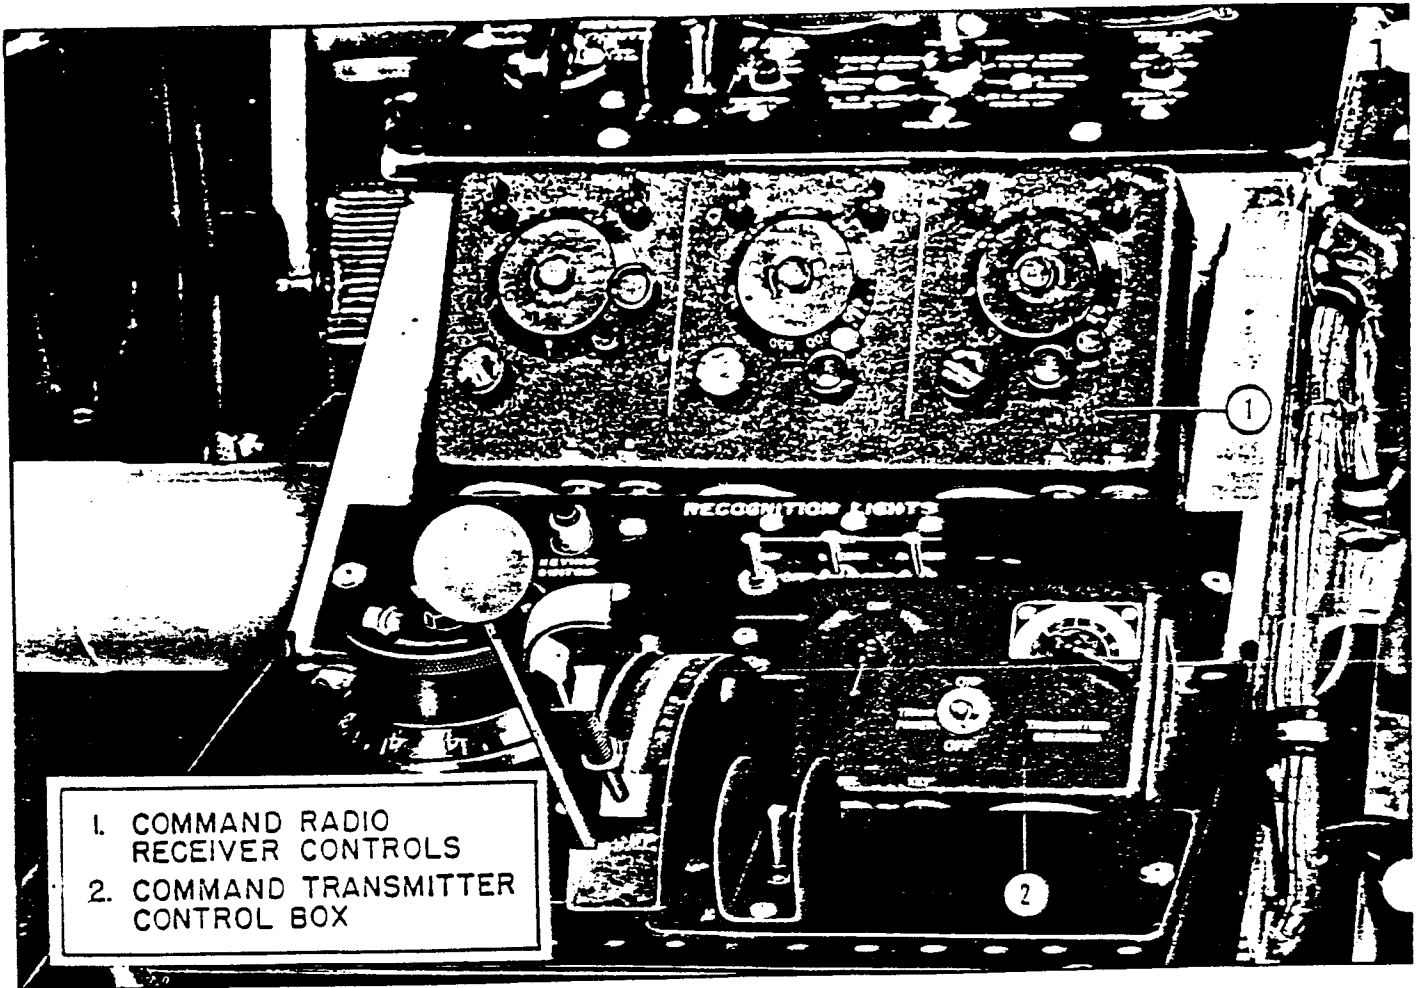
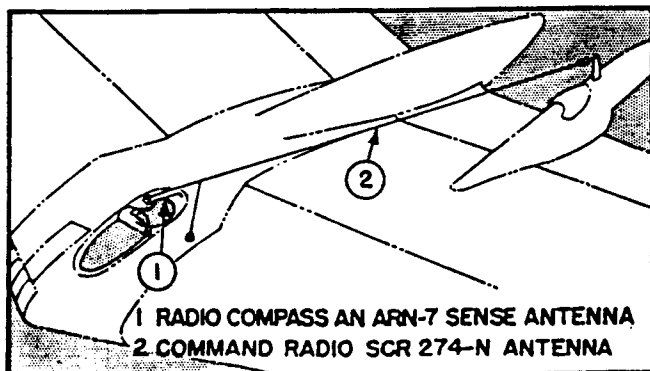
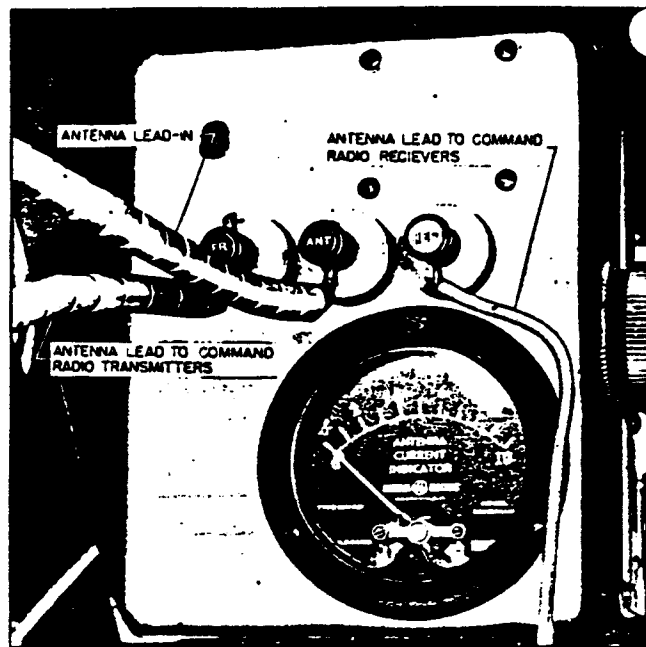

Figure 12. SCR-274N Radio Controls
Figure 14. Antennas
Figure 15. Antenna Relay Switch
on the (3.10-6.0 Mc) band and the BC-455 for receiving on the (6.0-9.1 Mc) band. Each receiver is an independent complete self-contained radio signal receiving unit with its own dynamotor. All three receivers are basically alike electrically and mechanically. Each has the same compliment of tubes performing identical functions. All three are installed on the (FT 220) rack at the radio operator's station. Primary power is obtained from the airplane's 28 Volt D.C. supply. Each receiver is controlled by either the pilot or the copilot by means of the remote control box (BC-450 A), see figure 12, mounted on the pedestal convenient to both. This control box consists of three separate and complete remote control units one for each radio receiver. The control units like the receivers are identical electrically and mechanically. The only difference being in the calibration markings on the dials. All three receivers use the same antenna, see figure 14, which is also used for transmitting. An antenna relay switch (BC-442 A), see figure 15,
a. DESCRIPTION.- The transmitting equipment of the Command Radio (SCR-274-N) consists of two transmitters: (BC-458 A) for transmission on the 5.3-7 Mc band and one (BC-459-A) for transmission on the 7.0-9.1 Mc band, one modulator (BC-456 A) and a transmitter remote control box (BC-451 A). (See figure 12.) Both transmitters are basically alike electrically and mechanically and are installed on a rack (FT-266 A) at the radio operator's station. Primary power is supplied from the airplane's 28 Volt d.c. current supply. Each transmitter is individually controlled by the pilot or the copilot by means of the transmitter remote control box mounted on the pedestal convenient to both, figure 12. Both transmitters use the same antenna which is also used for receiving. The antenna is normally connected to the receivers but when the power switch of the transmitter control box is turned to "ON" and transmitting is begun, the antenna is automatically disconnected from the receivers and connected to the transmitters by the antenna relay, (BC-442 A), see figure 15. Both transmitters use the same modulator. The control box incorporates the "transmitter power" switch, "transmitter selection" switch, "TONE-CW-VOICE" switch, a microphone jack, a transmitter key, and a jack for attaching an external key.
3. ANTENNA. (See figure 14.)- The common antenna for the three command receivers and the two transmitters is installed between the pilot's canopy and the antenna mast which extends from the top side of the L.H. inboard propeller shaft housing a little forward of the trailing edge. The antenna lead extends from the pilot's canopy to an antenna plug to the left of the canopy thence inside the cabin to the antenna relay at the radio operator's station.
a. START AND STOP.- To start any one of the receivers turn the "CW-OFF-MCW" switch of the corresponding control unit to the "CW" or "MCW" position, see figure 12. Plug the headset into the pilot's or copilot's jack box and turn the "A-B" jack switch of the control unit to position "A." To stop, turn the "CW-OFF-MCW" switch to the "OFF" position.
a. START AND STOP.- To start either transmitter turn the "TRANS. POWER" switch of the remote control box, see figure 12, to the "ON" position. It takes about 15 seconds for the transmitter to warm up. To turn off the transmitters turn the "TRANS. POWER" switch to the "OFF" position.
3. REMOVAL OF CONTROL BOX UNIT NO. BC-450 A. (See figure 12.)- To remove the receiver's remote control box from the mounting FT-222 A:
7. REMOVAL OF THE ANTENNA RELAY (BC-442 A). (See figure 15.)
9. REMOVAL OF COMMAND RADIO ANTENNA. (See figure 14.)- Relieve the tension by detaching the spring assembly and detach the antenna. Cut the antenna wire where it fastens to the lucite projection on the canopy.